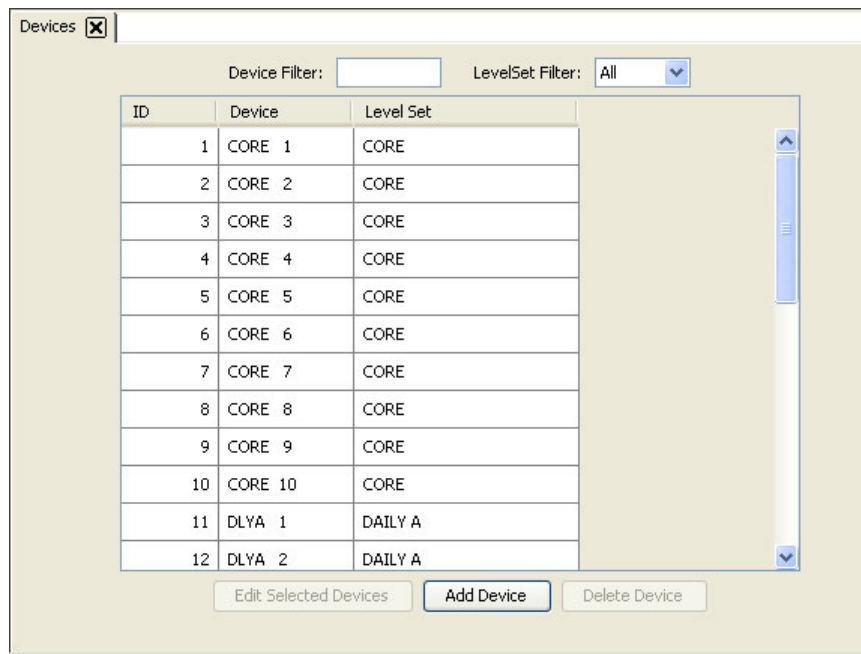

Figure 9-15. Devices Page
- 1 From the Navigation area, select the 'Configuration' pane and then 'Devices'. The 'Devices' page displays, as shown in Figure 9-15.